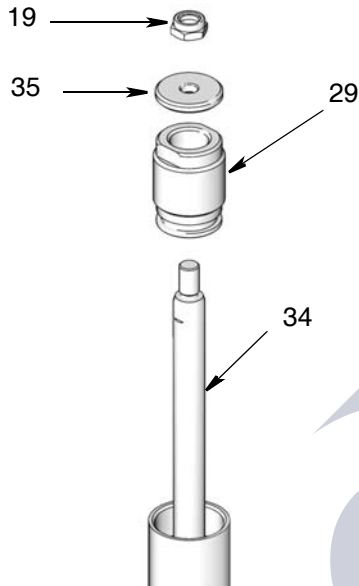
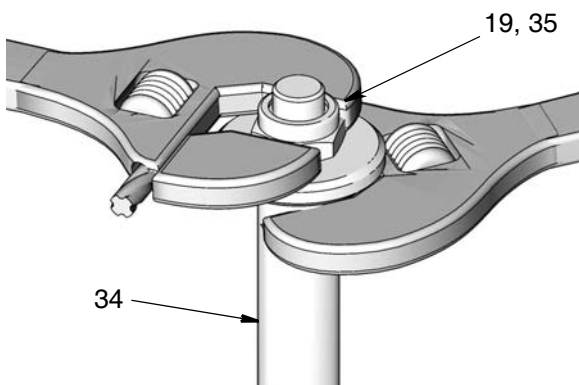

Fig. 22
Fig. 23
26. Install seal retainer (29) over priming rod (34) (Fig. 22).
28. Install the priming piston (35 and nut (19) (Fig. 3, Fig. 4) on priming rod (34) Use an adjustable wrench to hold the priming rod (34) securely. Use a second adjustable wrench to tighten nut. Then torque nut to 70 - 80 in. lbs (7.9 - 9.0 N.m) (Fig. 22 and Fig. 23).